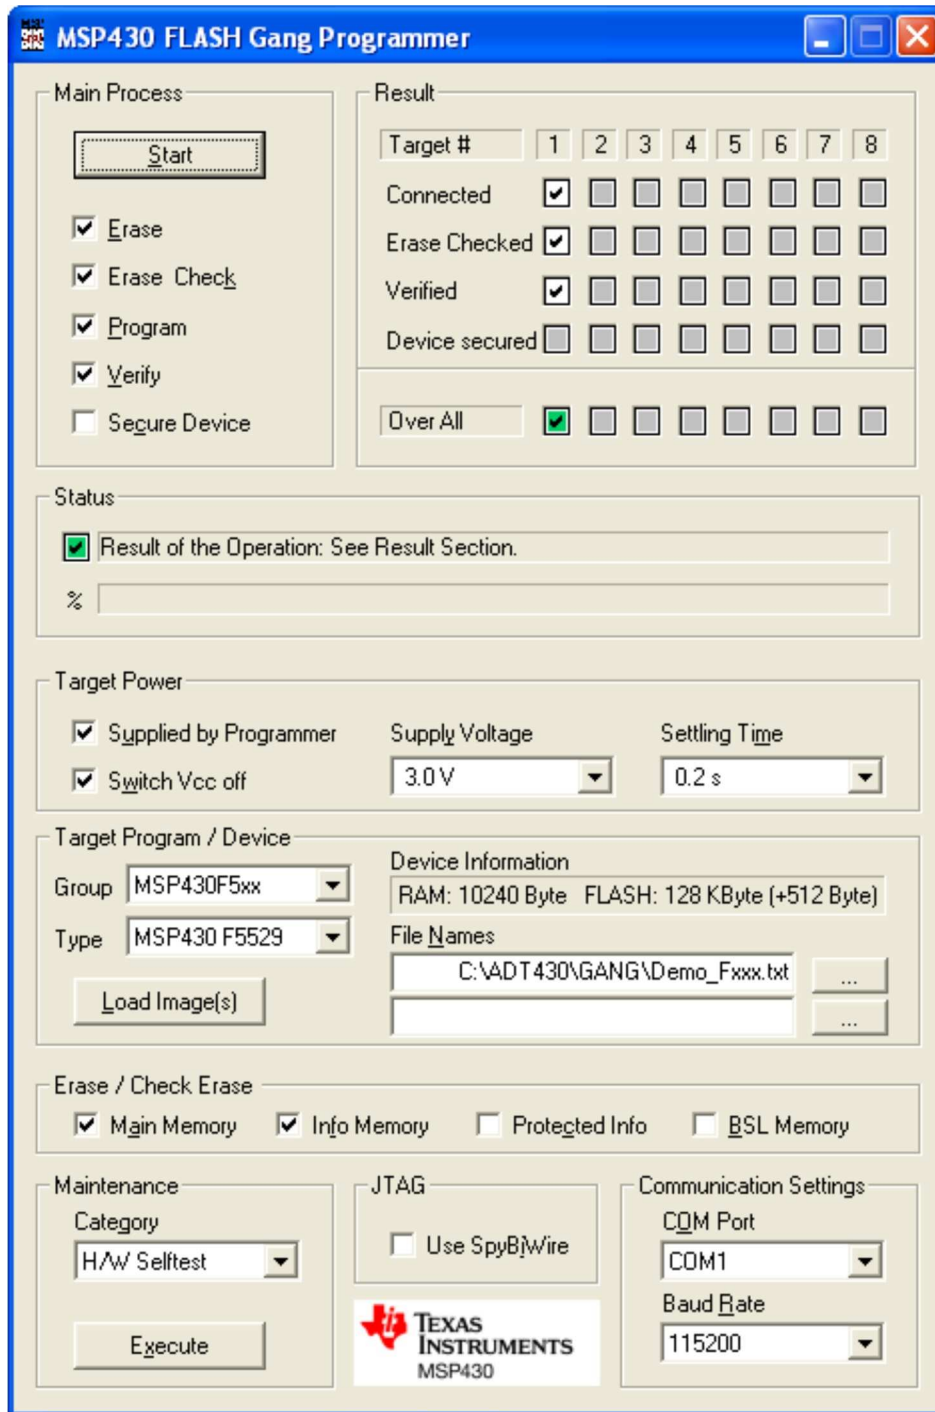

Figure 2-1. MSP-GANG430 GUI
2. Click on the GANG430 icon located in the program group specified during installation of the software (the default group is ADT430). The MSP430 Gang Programmer GUI is displayed on the screen (see Figure 2-1).